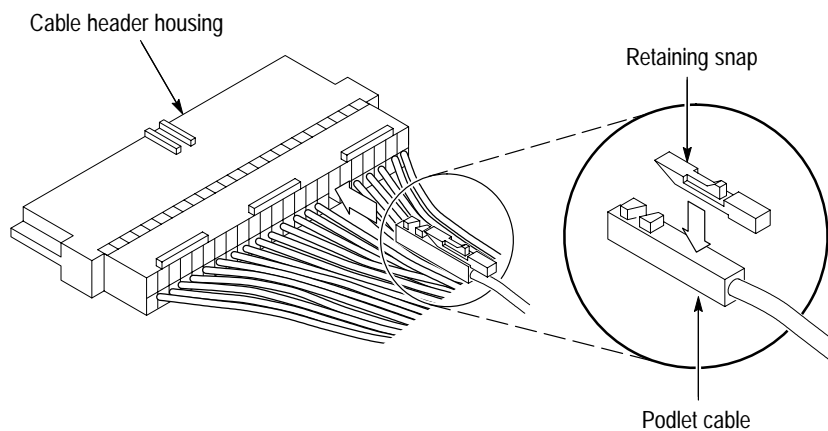

Figure 15: Installing the cable in the cable header housing
- 20.** Insert the new podlet cable partially into the cable header housing. Place a new retaining snap (included with the kit) on the podlet cable as shown in Figure 15 and fully insert the cable and retaining snap into the cable header housing. Tug lightly on the podlet cable to ensure the retaining snap is in place.